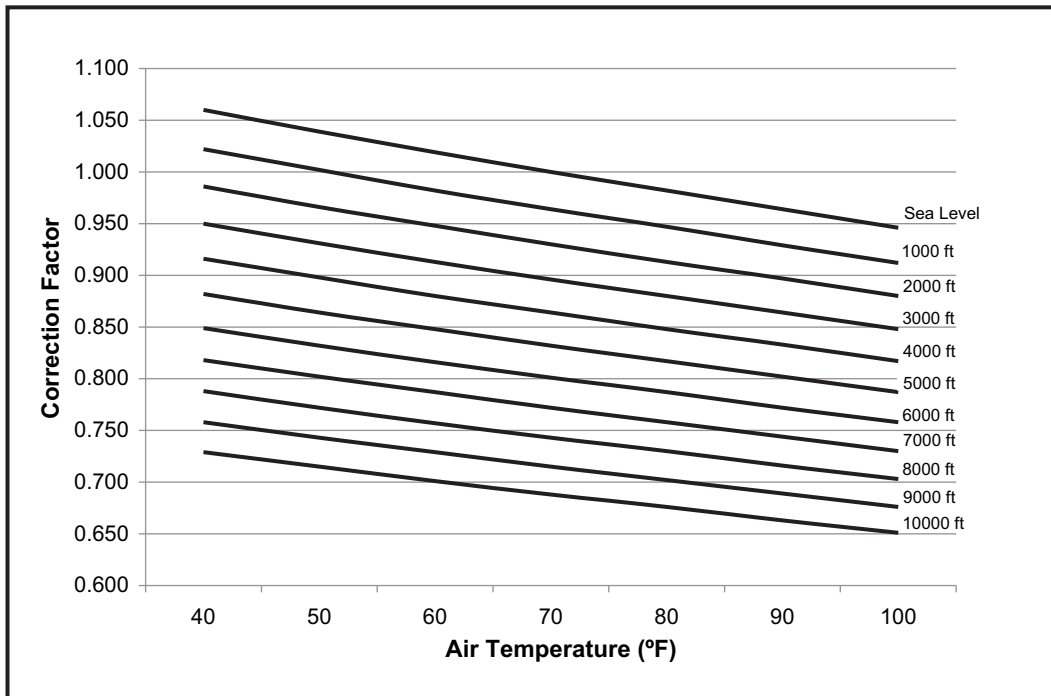

Figure 20: Altitude/Temperature Correction Factors
2. Adjust tension by placing a flat heat screwdriver into the belt tightening slots (1/4" X 1/2") in the motor mount slide plate and applying pressure against the motor mounting plate. See Figure 20.
A centrifugal fan is a "constant volume" device. This means that, if the rpm remains constant, the CFM delivered is the same regardless of the density of the air. However, since the air at high altitude is less dense, less static pressure will be generated and less power will be required than a similar application at sea level. Air density correction factors are shown in Table 12 and Figure 20.